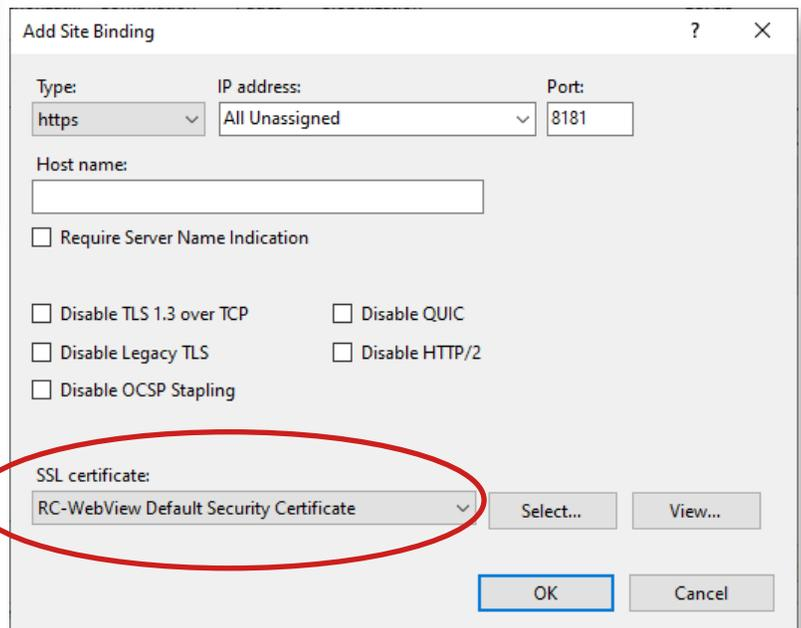

Figure 5: Add Site Binding dialog box.
3. Click **Add** in the Site Bindings dialog box to open the Add Site Binding dialog box (Figure 5).
4. Select https in the Type drop-down list, and enter a port that is different from the http port. In Figure 5, the port is 8180 + 1.